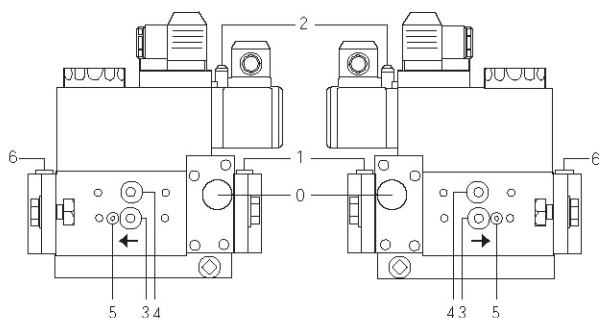
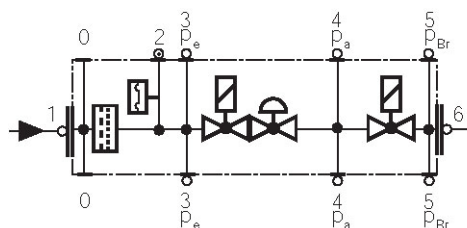

Fig. 21
Fig. 22
- Change the filter if the pressure difference between pressure connection 1 and 3 (Fig. 21-Fig. 22) is $\Delta p > 10$ mbar.
- Change the filter if the pressure difference between pressure connection 1 and 3 (Fig. 21-Fig. 22) is twice as high compared to the last check.